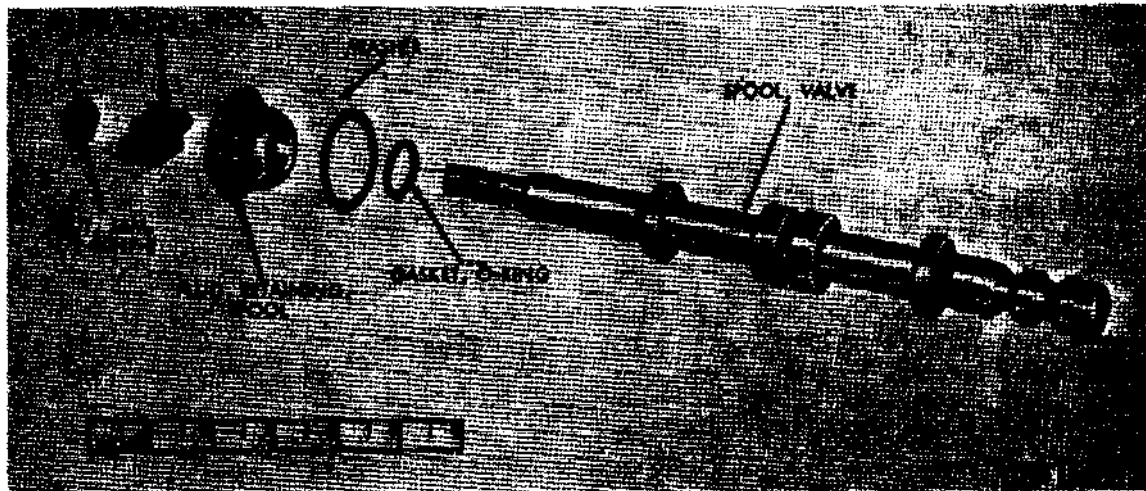

Figure 101. Control valve spool assembly - exploded view
- (b) Remove the jam nut, spool trunnion, spool retaining plug, washer, and O-ring gasket from valve spool (fig. 101). Discard O-ring gasket.
- (1) Cleaning.
- (1) Assemble control valve spool (fig. 101). Install washer on spool retaining plug, and position new O-ring gasket and spool retaining plug with washer over threaded end of valve spool onto finished surface of spool. Install spool trunnion and 1/2-20NF-3 jam nut on threaded end of valve spool.